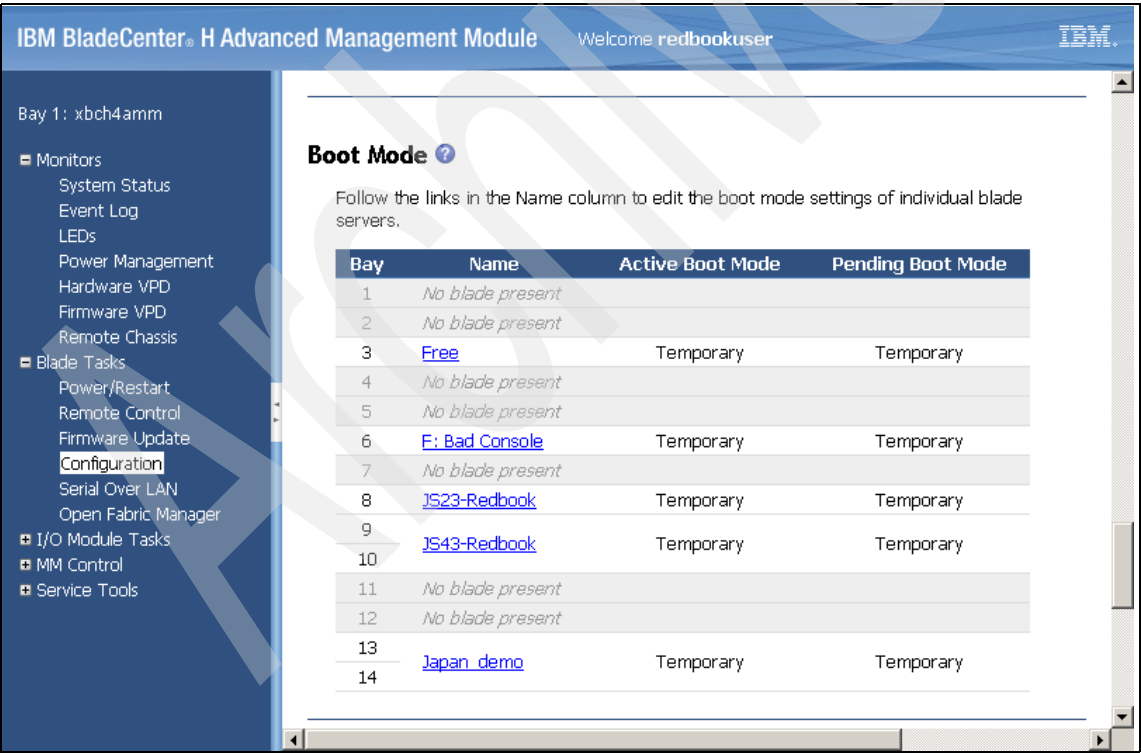

Figure 12-1 Select BladeCenter boot mode main page
2. Select **Blade Tasks** → **Configuration** → **Boot Mode**. Figure 12-1 shows the AMM window for selecting blade's boot mode.
- Verify that the system starts using the firmware image from the TEMP side. It can be done by repeating steps 1 on page 456 and 2 on page 456 (see Figure 12-1 on page 456).